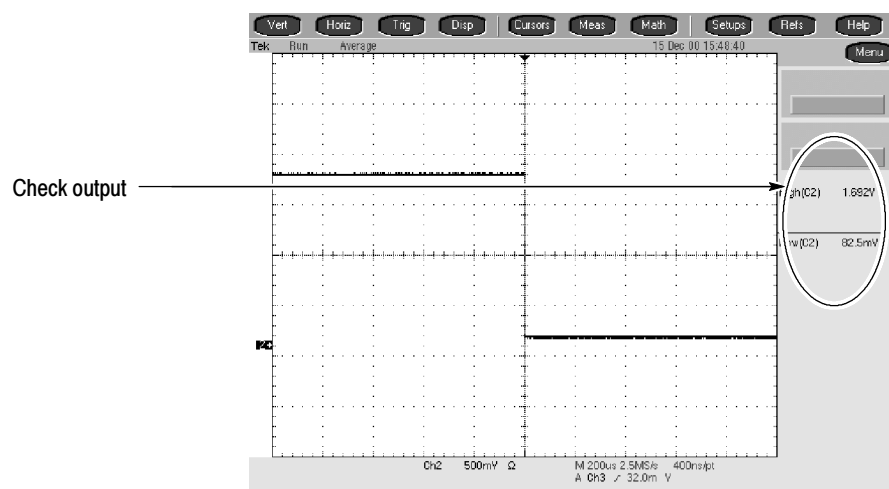

Figure 4-22: Measurement of trigger out limits
- c. *Check AUX OUT output against limits:* CHECK that the **CH 2 High** readout is ≥ 1.0 volt and that the **CH 2 Low** readout ≤ 0.25 volts. See Figure 4-22.